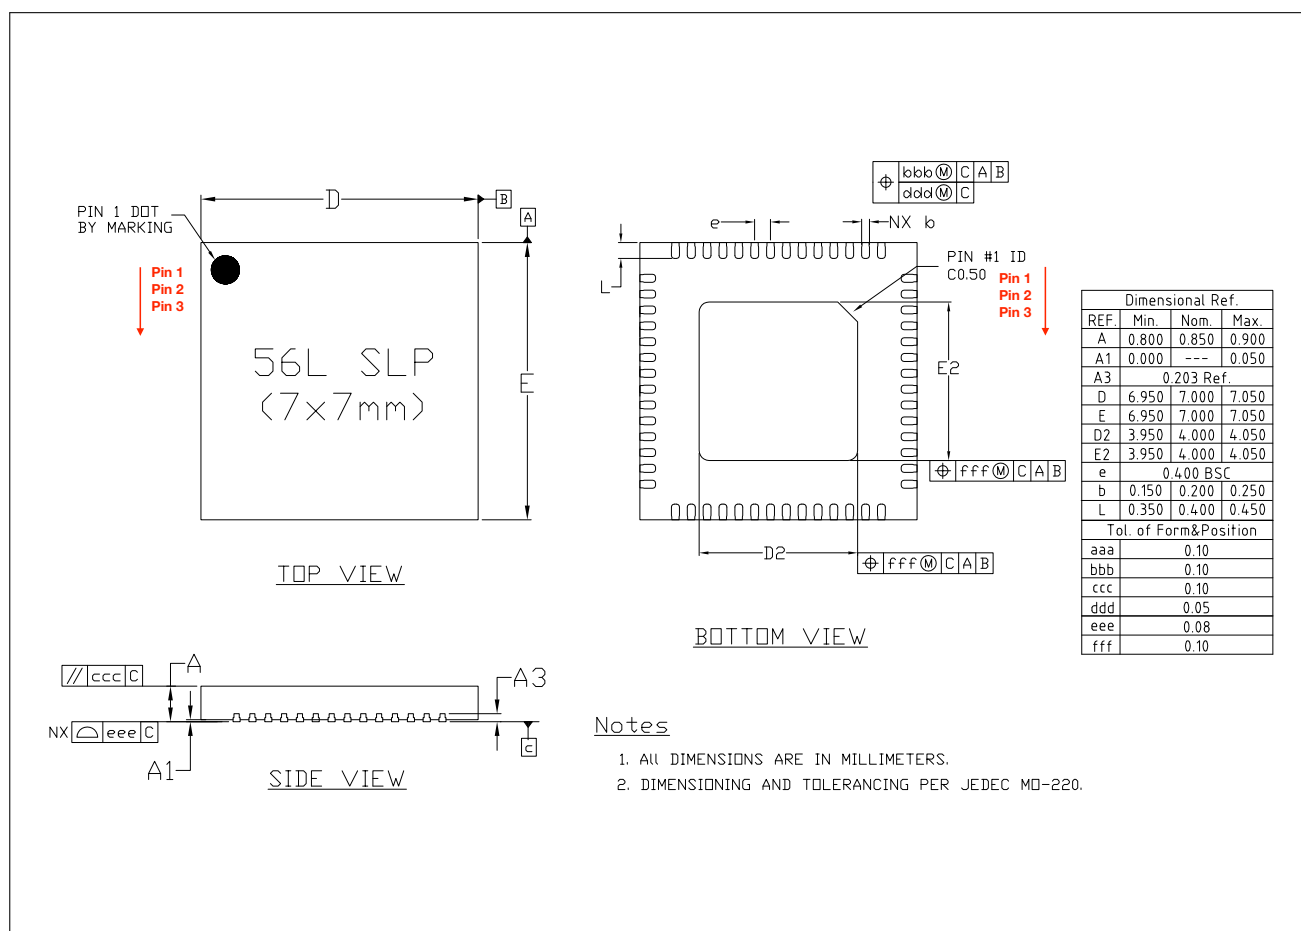
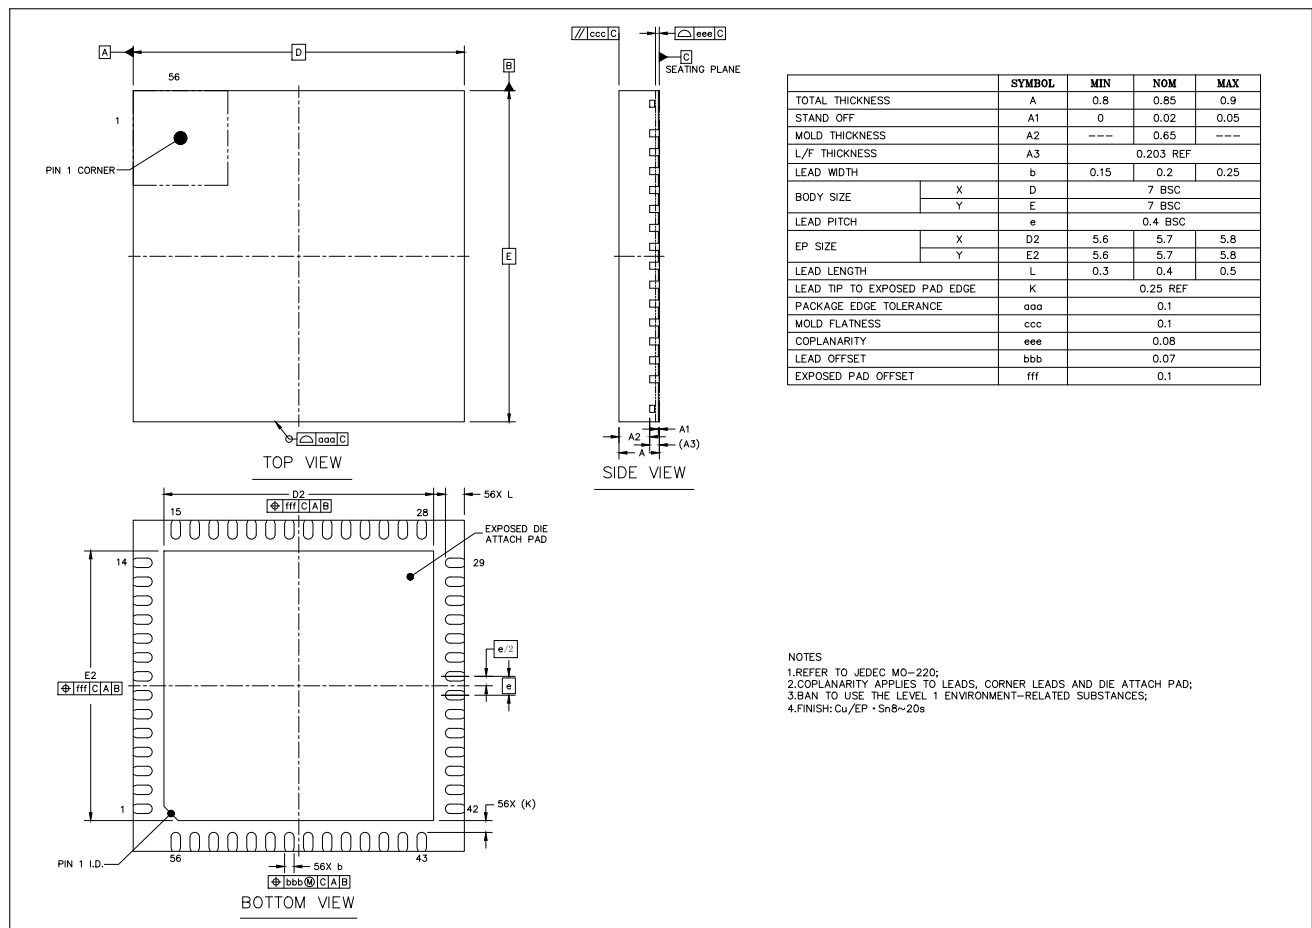

Figure 7-1. QFN56 (7x7 mm) Package
Figure 7-2. QFN56 (7×7 mm) Package (Only for ESP32-S3FH4R2)
- All ESP32-S3 chip variants have identical land pattern (see Figure 7-1) except ESP32-S3FH4R2 has a bigger EPAD (see Figure 7-2). The source file \(dxf\) may be adopted for ESP32-S3FH4R2 by altering the size of the EPAD (see dimensions D2 and E2 in Figure 7-2).